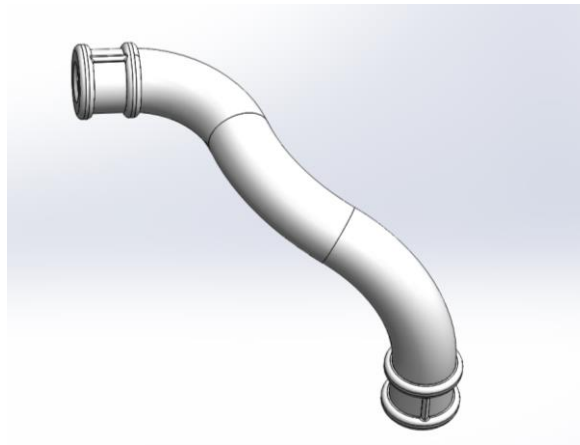

Figure 8: Orientation of Inlet T Tube
1. Reinstall the new Inlet tube in the orientation below with the top end of the tube attached to the manifold, ensuring that the alignment mark is on top of the manifold barb (See Figure 8). Be sure to feed the inlet tube back under the Accumulator tube. *Seat the tubing as far as possible on to the manifold barb.*